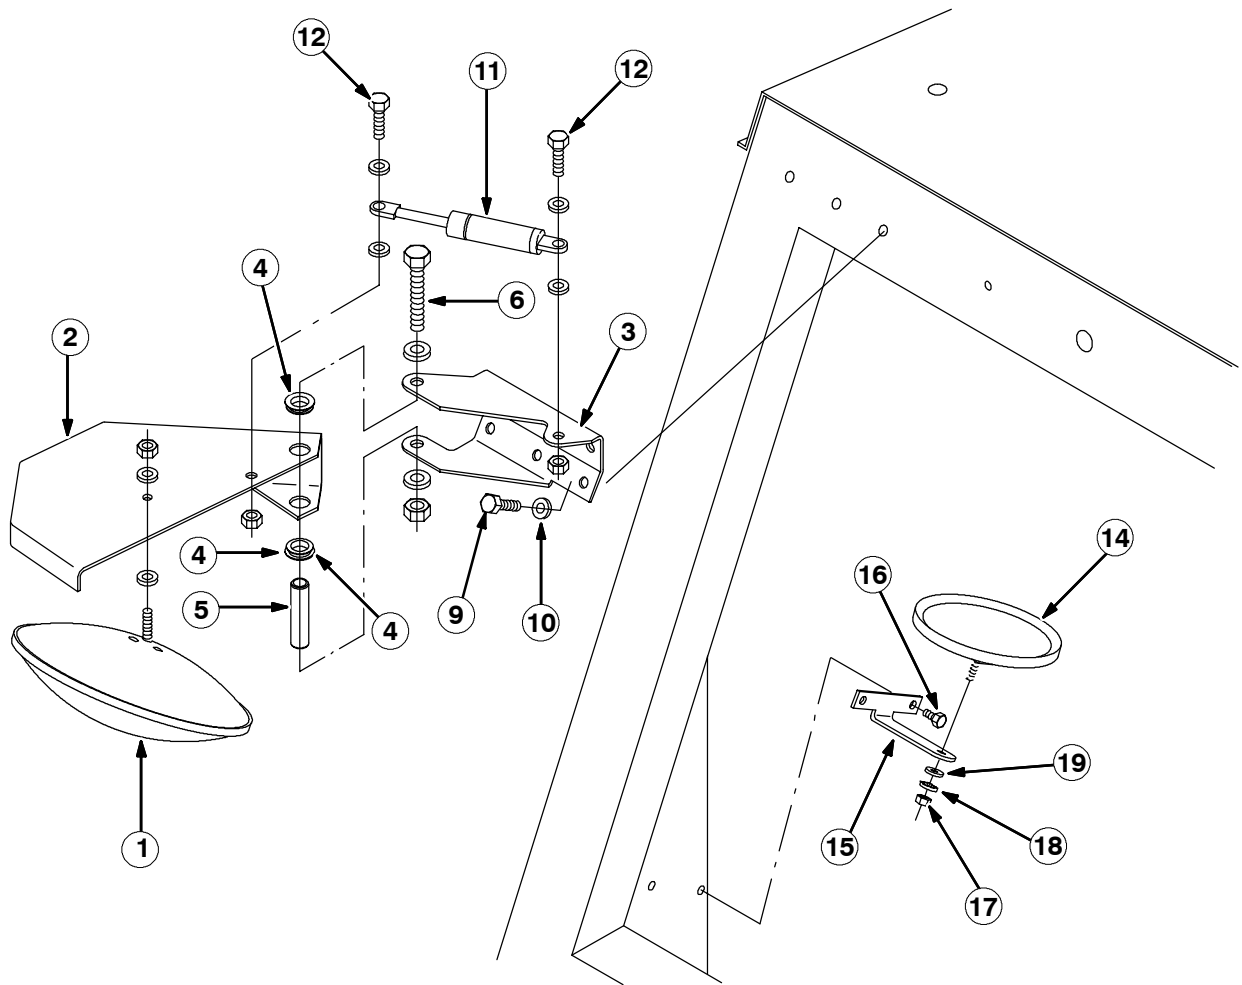
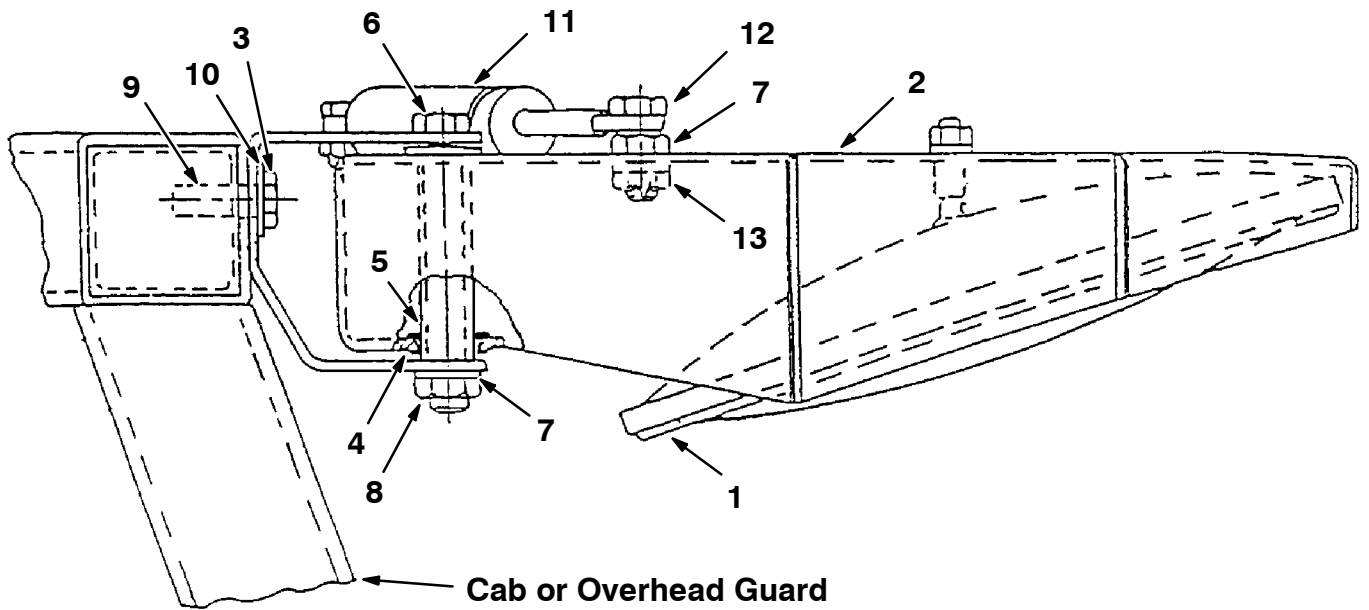

FIG. 3 – Mirror Kit Installation
FIG. 4 – Mirror and Mounting Bracket Assembly
1. Install mounting bracket (3) onto cab or overhead guard with three hex screws (9) and three flat washers (10). Refer to FIG. 3 and FIG. 4.
2. Install one end of gas spring (11) onto mounting bracket (3) with one hex screw (12), one flat washer (7), and one hex nut (13). Refer to FIG. 3 and FIG. 4.
3. Install mirror guard (2) onto mounting bracket (3) with steel tube (5), two flange bushings (4), hex screw (6), one flat washer (7), and hex flange nut (8). Refer to FIG. 3 and FIG. 4.
4. Install remaining end of gas spring (11) onto mounting bracket (3) with one hex screw (12), one flat washer (7), and one hex nut (13). Refer to FIG. 3 and FIG. 4.
5. Install round mirror (1) onto mirror guard (2) with hardware included with mirror. Refer to FIG. 3 and FIG. 4.
6. Install side brush mirror (15) onto inside lower corner of cab or overhead guard with bracket (16), screws (17) and hardware (18), (19), and (20). Refer to FIG. 3 and FIG. 4.